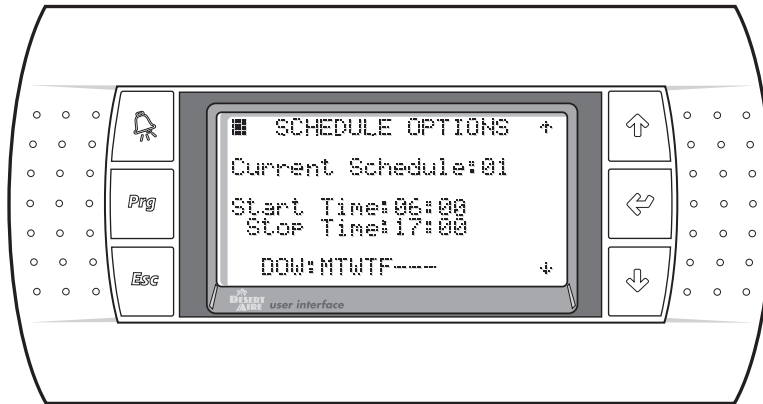

Figure 34
2.5.1.1 Current Schedule (Figure 34)